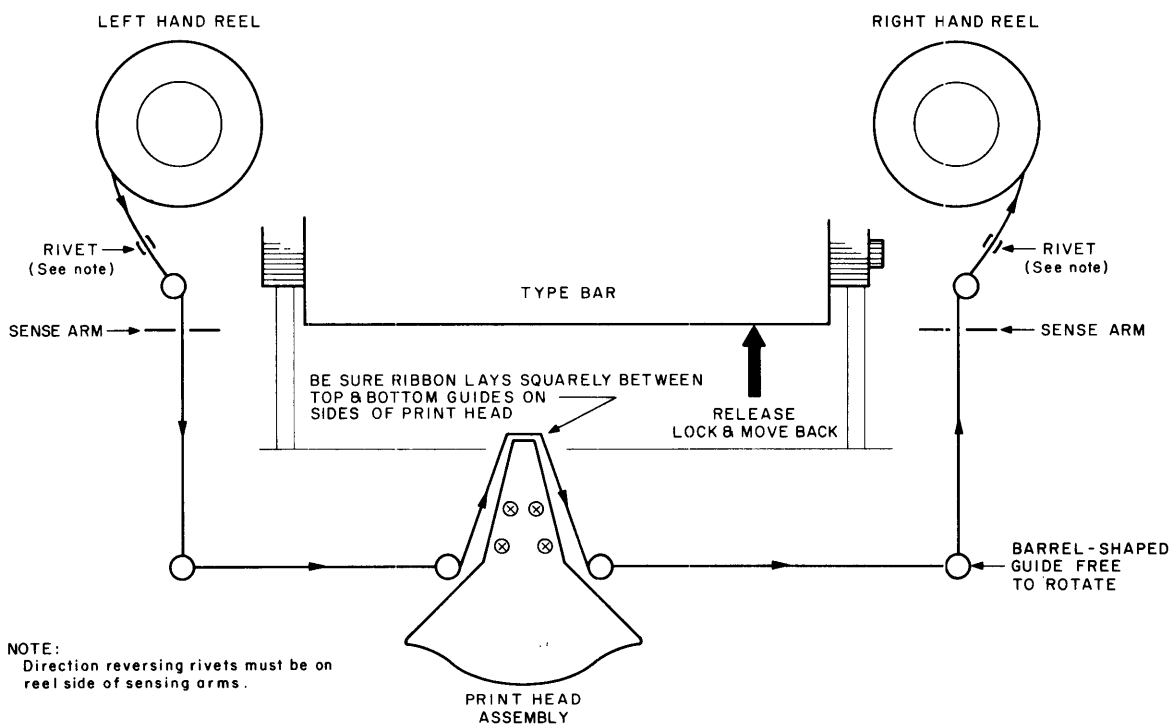

Figure 3-6 Ribbon Threading Diagram
8. Snap both reels on their motor shafts and thread the ribbon through the sensing arms and over the idler rollers and print-head assembly as shown in Figure 3-6.